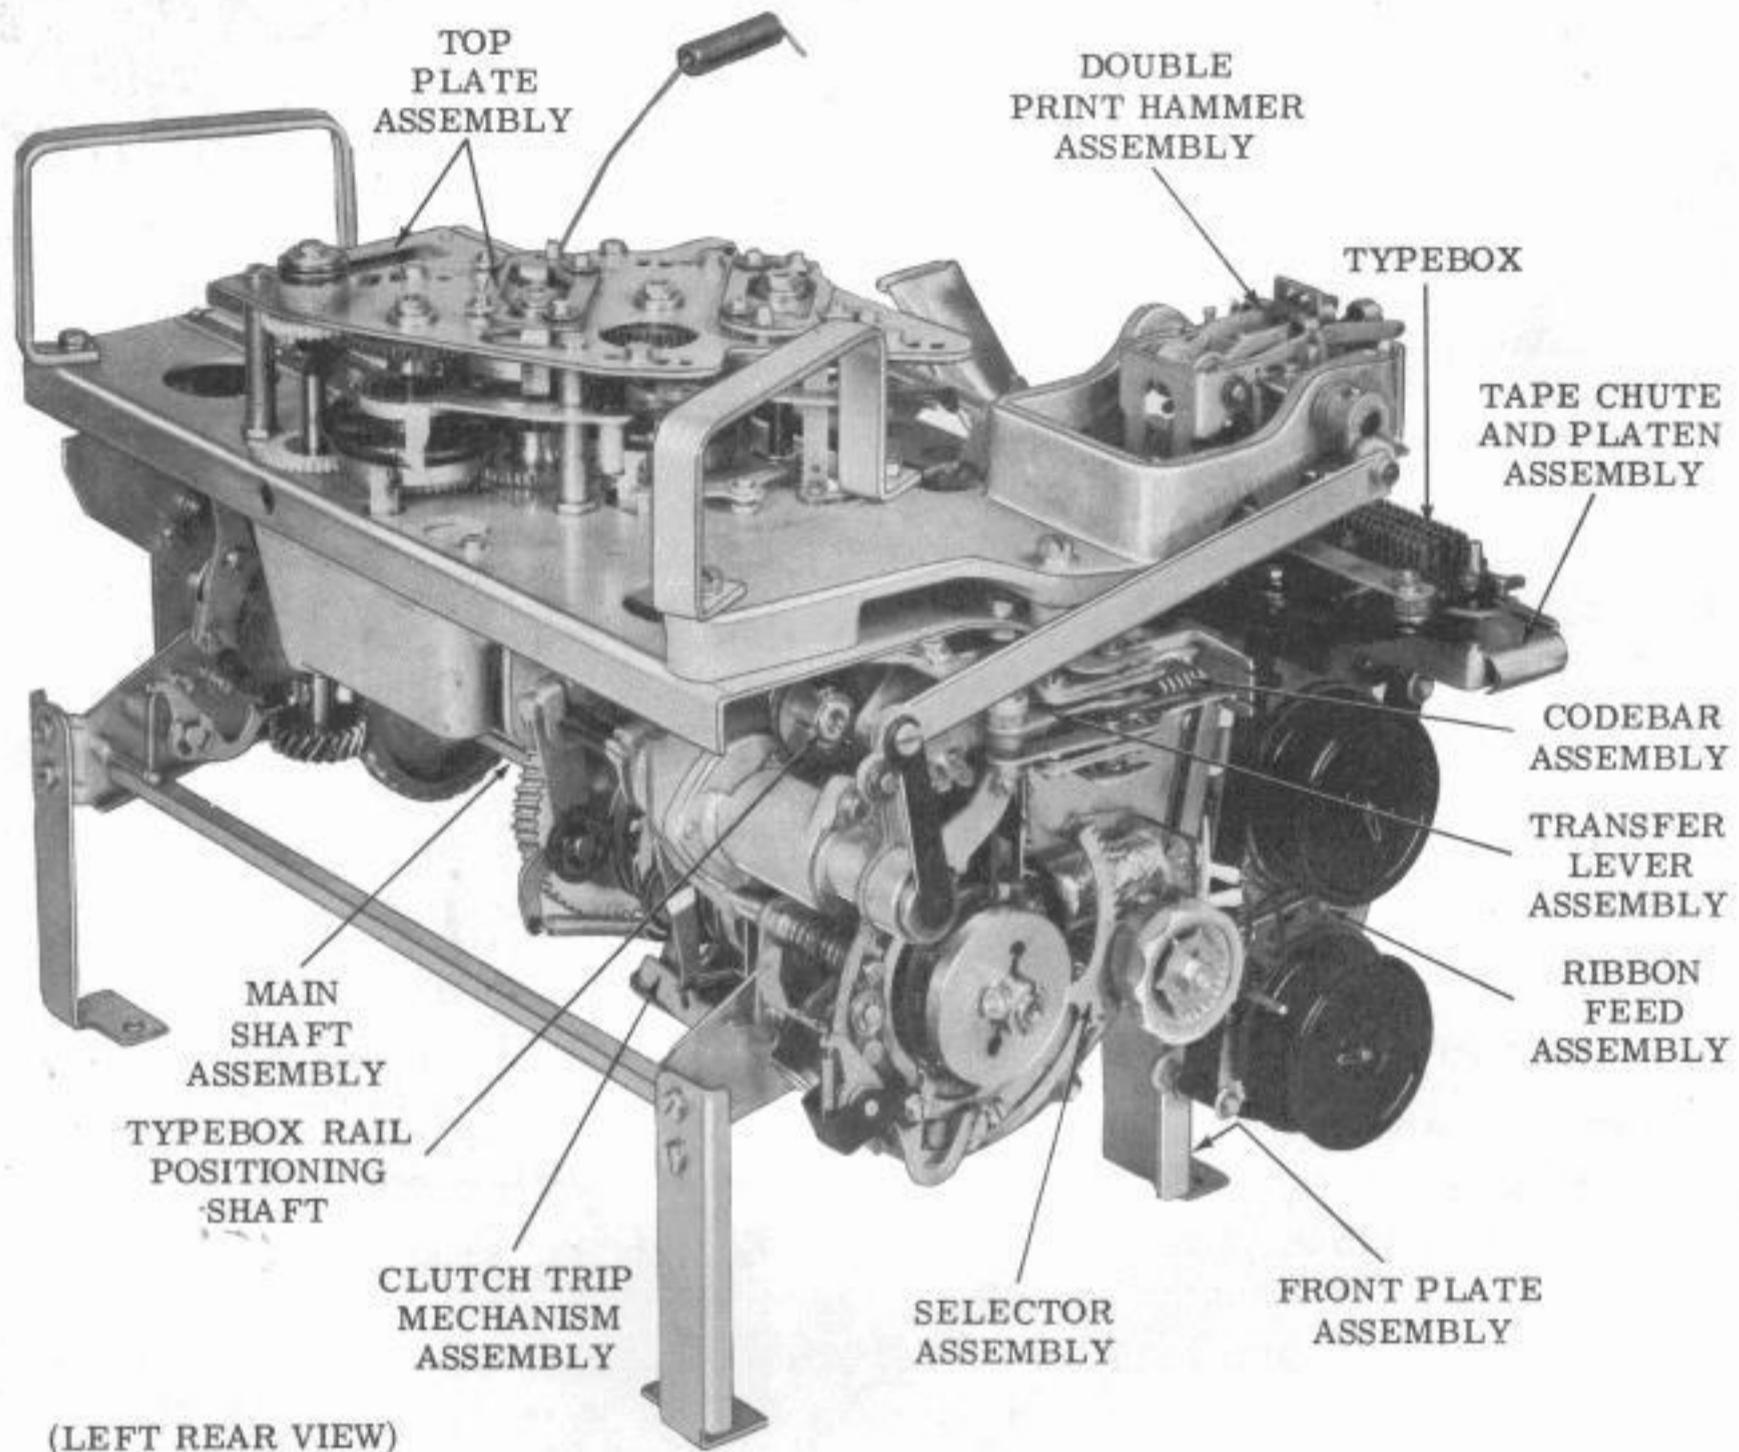

Figure 1 — Tape Printer Unit (Stock Ticker)
1.01 This section is issued to provide disassembly and reassembly instructions for the tape printer unit (stock ticker) (Figure 1) and to present those instructions as a separate section. The disassembly outlined in this section will break the tape printer down into major assemblies and mechanisms. (See Figure 1.)